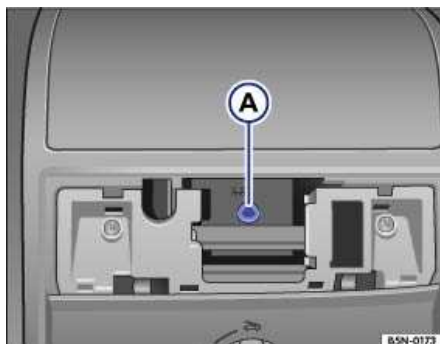

Fig. 39 Bolt for closing the power sunroof.
- Insert a standard 4-mm Allen wrench²¹ into the socket head screw ⇒ Fig. 39 (A).